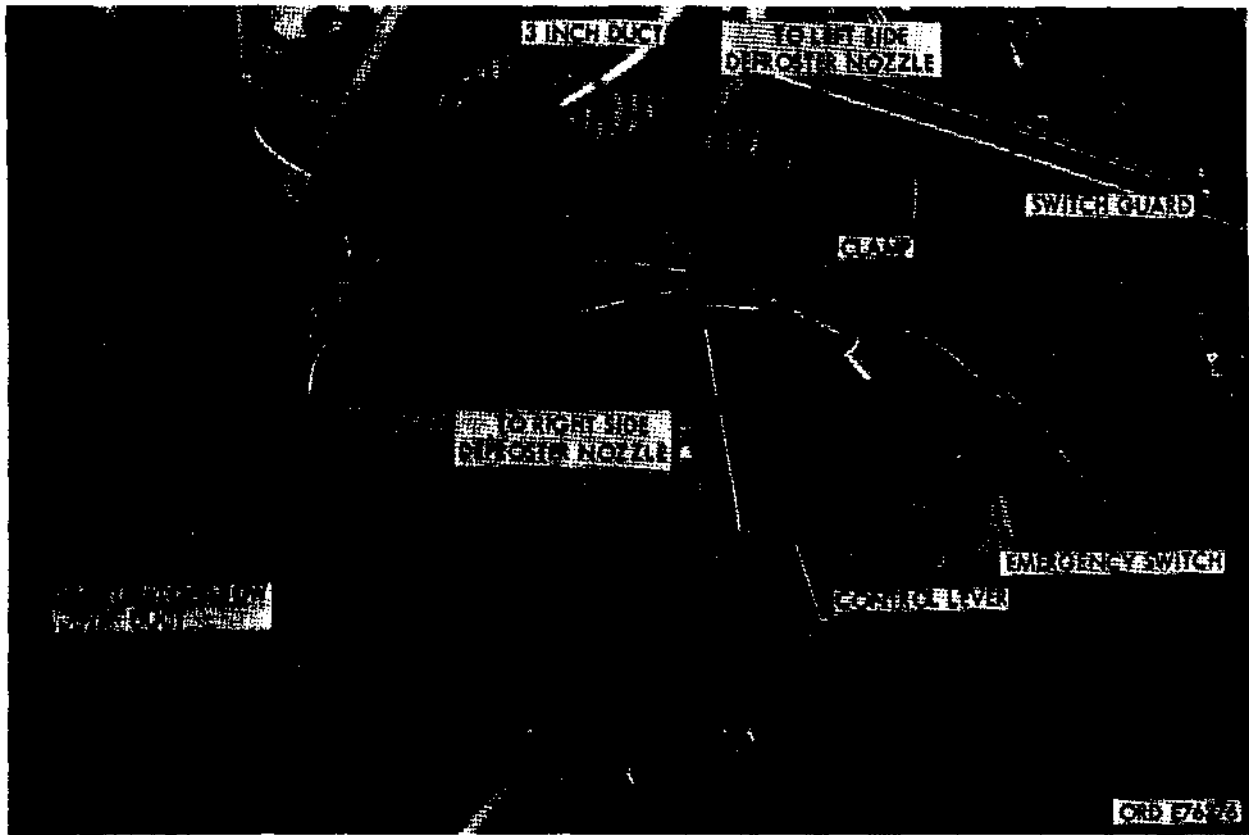

Figure 685. Defrost duct installation
- (3) Secure deflector with five 4-24x $\frac{1}{2}$ self-tapping screws MS 96906-24641-14.
- (4) Repeat operation on left side with other defrost deflector.
l. Install Defroster Ducts (Figure 685).
- (1) Secure 26- $\frac{1}{2}$ inch long x 3 inch diameter duct 7951086 to the right windshield de-